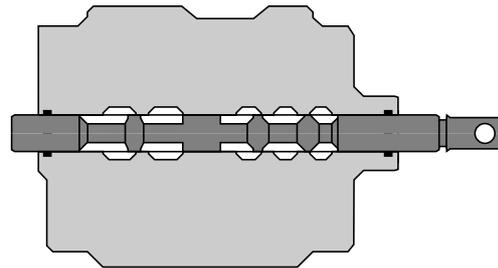

Fig 16. Position C
- 3 → Fig 16. (□ L-292). Position the spool in its central position C. Reassemble the spool centering spring mechanism.